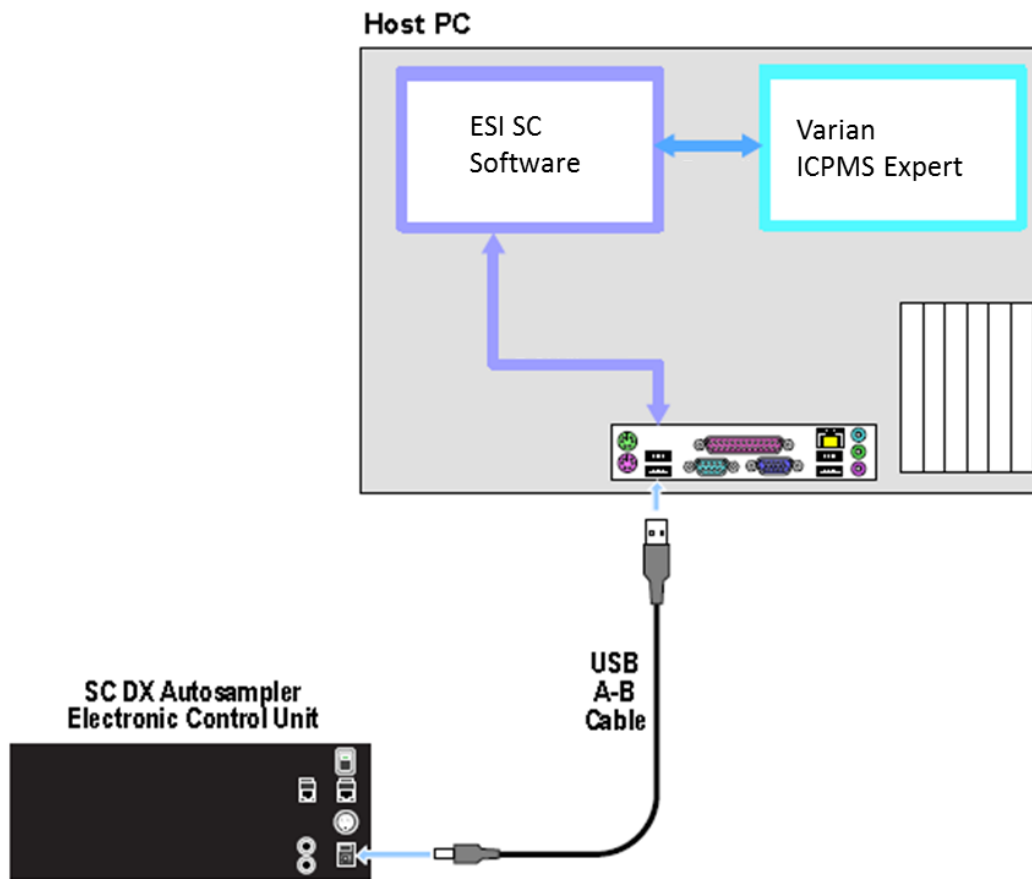

Figure 41: Connection options for ICP-MS Expert and ESI SC with SC autosampler.
- 2) Connect the USB cable from the computer to the SC Autosampler. See Figure 41. Connect 24 VDC power to the SC Autosampler.